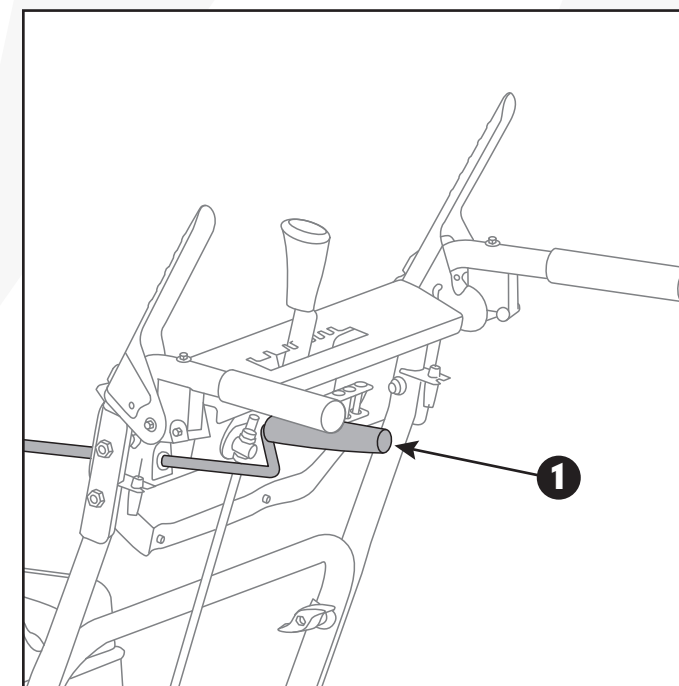
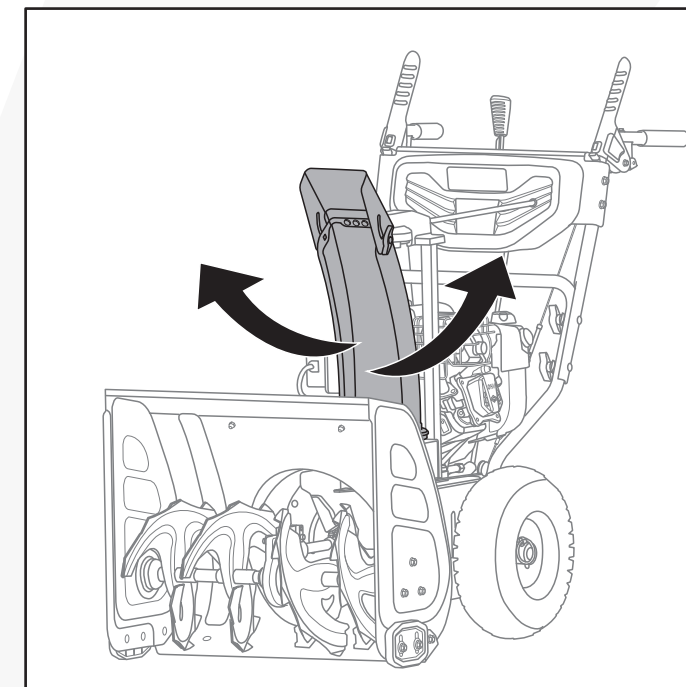

Fig. 15A
Fig. 15B
- Turn the chute rotation lever clockwise –the chute turns to the right. (Fig. 15A & Fig. 15B)
- Turn the chute rotation lever anti-clockwise –the chute turns to the left. (Fig. 15A & Fig. 15B)